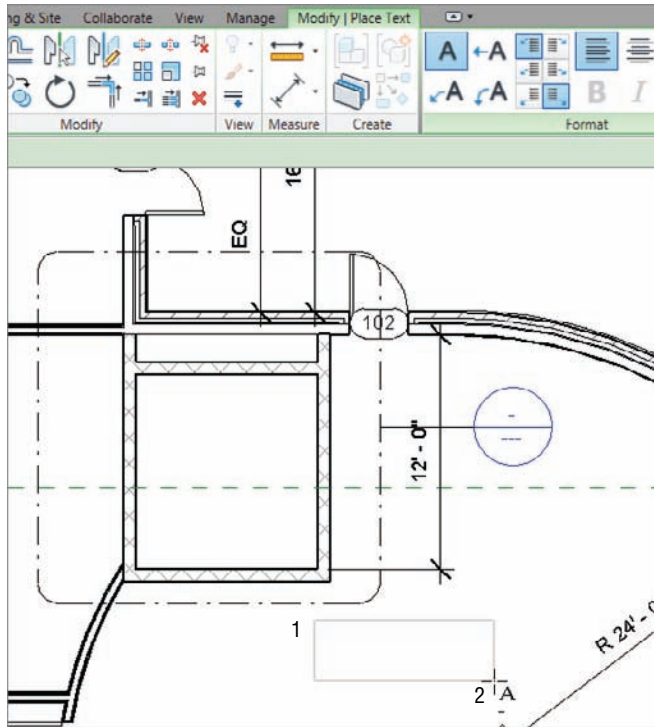

FIGURE 5.49 Placing text
5. On the Format panel, you have choices for a leader. For this example, select the No Leader button. It is the button with the A on it, as shown in Figure 5.49.
6. To place the text, you can pick a point or drag a window. Left-click at the point labeled 1 in Figure 5.49. Keep the button down.
7. Drag the cursor to the point labeled 2 in Figure 5.49 and let the button up.